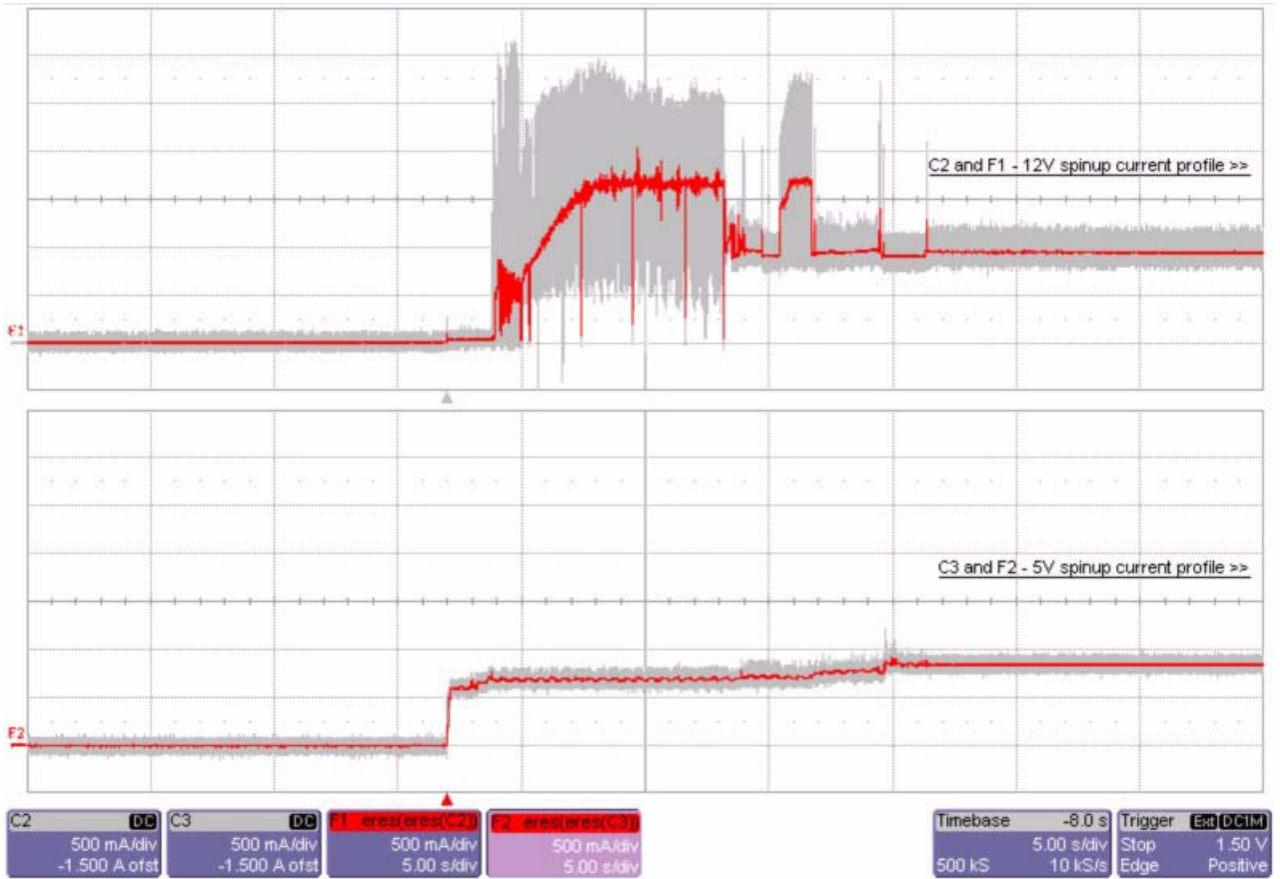

Figure 1. Typical ST3450856FC current profiles
- [3] See +12V current profile in Figure 1.